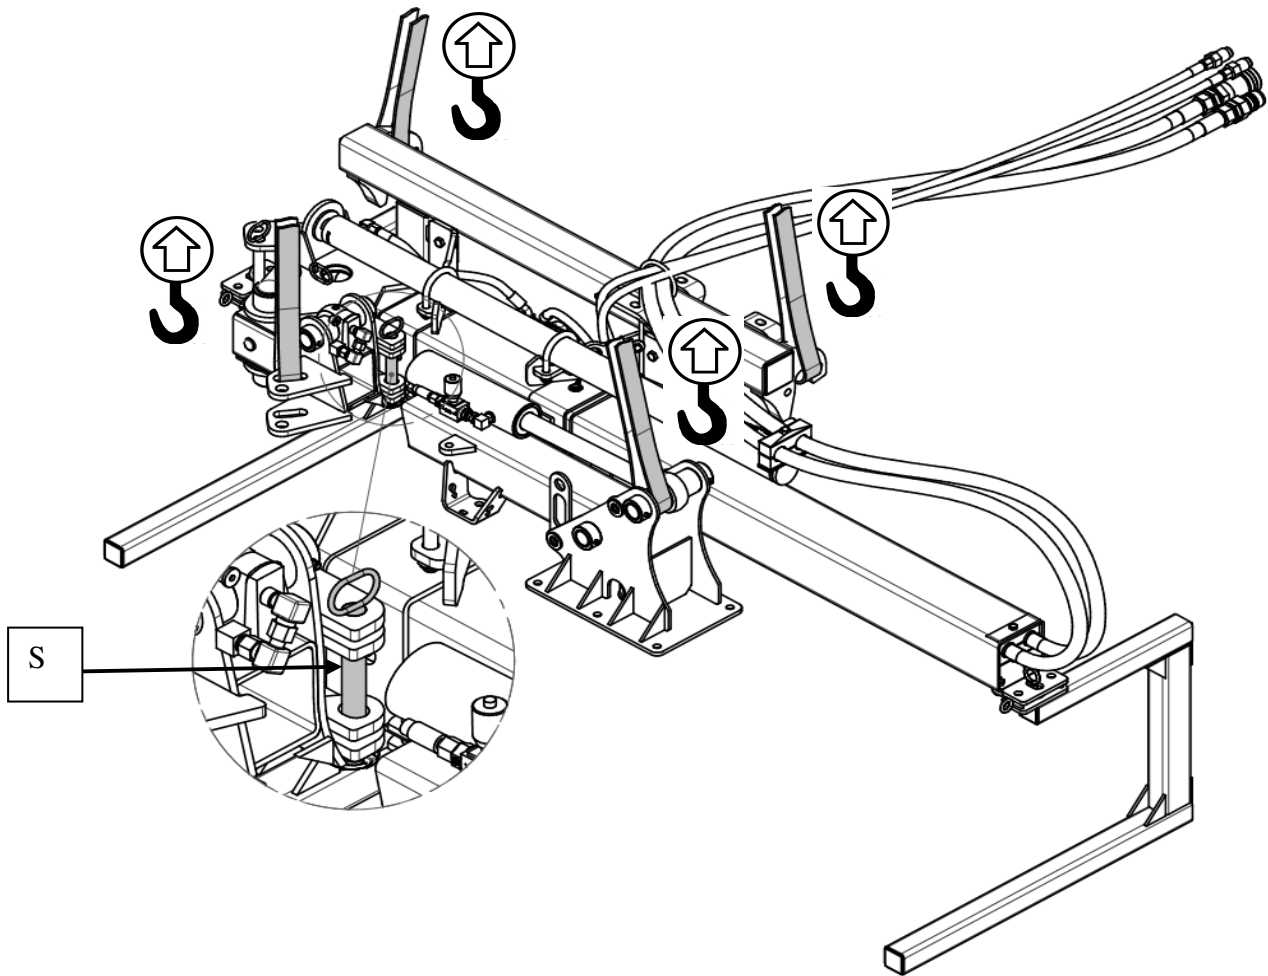

Fig. 5. Moving machine onto another vehicle
- ❑ Grab machine by any lifting devices only in places indicated by hook sign (**Fig. 5**),
- ❑ Before transporting in the given position (**Fig. 5**), check whether the rotary arm is secured with pin (S).